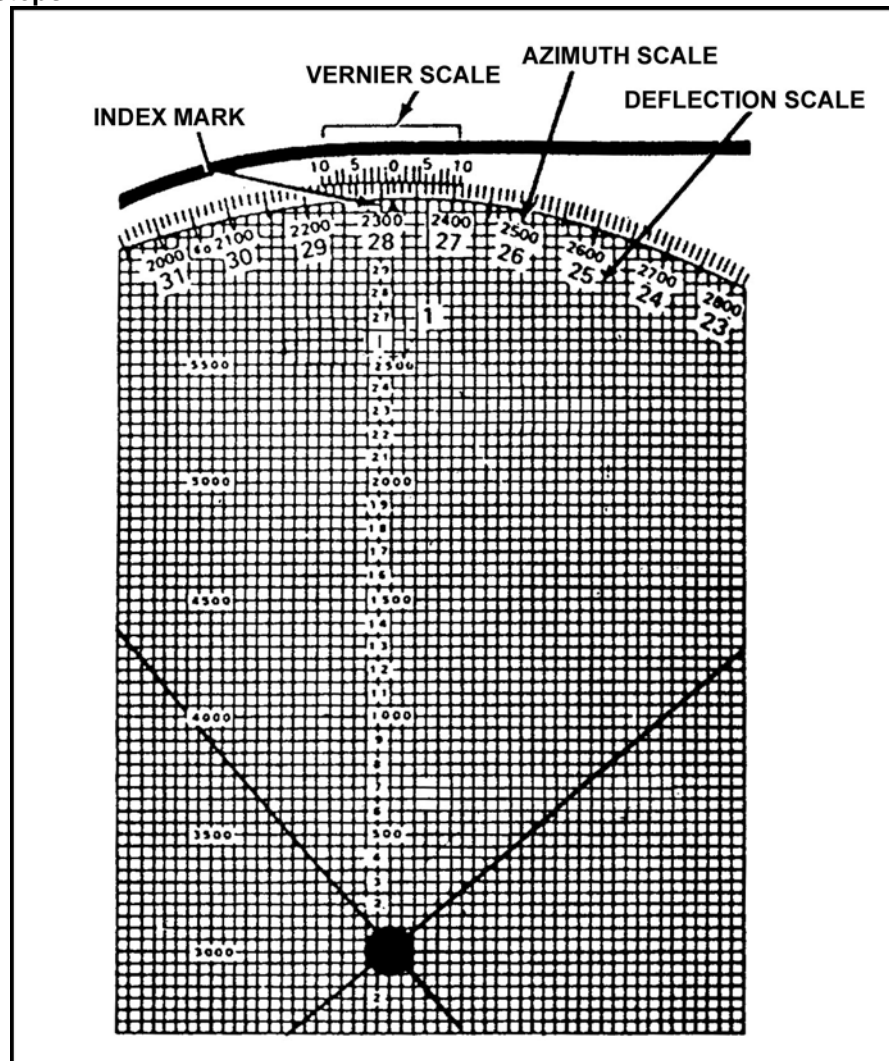
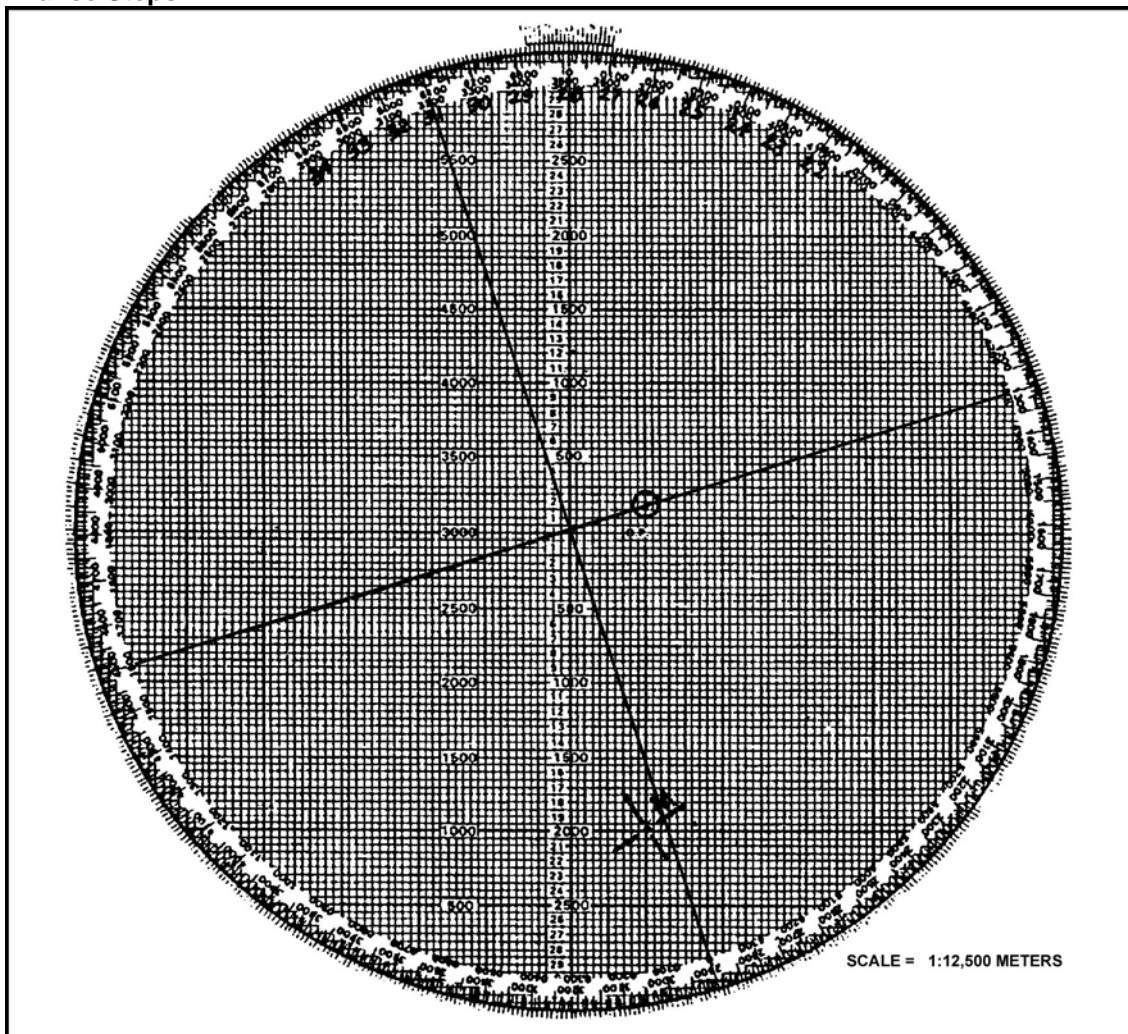

Figure 1. Placement of Deflection Scale on Disk
Figure 3. Mortar and Target Aligned
- (4) Record the mounting azimuth in the top margin of the computer's record.
- (5) To set up the deflection scale on the plotting board, rotate the disk until the mounting azimuth is at the index mark. Directly below the mounting azimuth, write in the referred deflection (normally 2800) using the first two digits (28). Continue right or left of 28, using the LARS (left add, right subtract) rule, 400 to 500 mils (Figure 1).
- (6) To determine the chart deflection to fire the first round, index the grid azimuth (direction of fire) and read the deflection that corresponds to the grid azimuth. Record the deflection in the CHART DATA/DEFL block of the computer's record.
- (1) The first two digits are read from the deflection scale the computer placed on the plotting board. Since deflections increase to the left, look for the first number to the right of the index mark. In this example, it is 27.
- (2) The third digit is read from the 10-mil mark between deflection numbers 27 and 28. The index mark is between the eighth and ninth 10-mil mark, which makes the third digit 8.
- (3) The fourth digit is read at the Vernier scale. For deflections, use the left half of the scale. Count the 1-mil marks, starting at the 0, to the left until one of the 1-mil marks of the Vernier scale and one of the 10-mil marks on the azimuth disk are aligned. In this case, the fourth 1-mil mark is aligned, making the fourth digit 4.
- c. Determine range. The next step is to determine the range from the mortar position to the RP. Using the edge of the computer's record, place it along the line from the mortar to the reference point on the map. Then place a tick mark at the mortar and one at the reference point. Using the range scale of the map, determine the range in meters. Record this in the CHART DATA/CHG (RG) block of the computer's record.
- d. Plot the mortar and target. To complete setting up the plotting board, plot the mortar and reference point. Keeping the chart deflection indexed, move 500 meters to the right or left of the pivot point and down 2,000 meters (Figure 1). Make a small plot and enclose it with the mortar symbol (Figure 3). To plot the RP (range 2,150 meters), count the large and small squares, go straight up the board to the range, make a small plot, circle it, and number it (Figure 3).
2. The computer plots forward observer's (FO's) correction. Receive and record the FO's correction (OBSERVER CORR) (Figure 1). Compute new data for the FO's correction as follows:
- (1) Rotate the disk until the No. 2 plot is aligned with the mortar plot. (The mortar and No. 2 plot must be an equal distance from the same vertical line and on the same side of the same vertical line.)
- (2) Keeping the plots aligned, read the deflection for plot No. 2 (Figure 1) and record on the computer's record.
- (3) Using the tick marks on the edge of the computer's record, determine the range for the mortar and No. 2 plot using the alternate range scale. Using the firing table, select and record elevation (Figure 1).